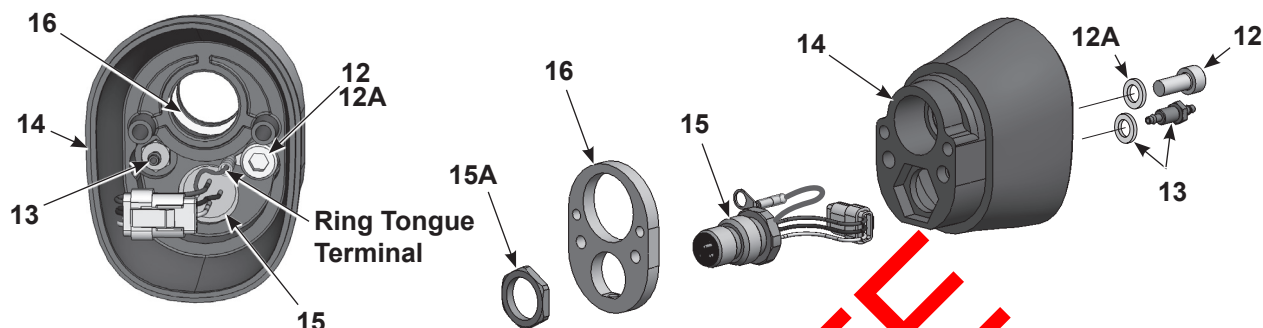

Figure 21 Tube-Mount Gun Disassembly 5 of 5
18. See Figure 21. To disassemble the rear body assembly, remove the screw (12) and barbed fitting (13) from inside the rear gun body (14). A 3-mm hex key and 1/4-in. deep-well socket are required.
19. Remove the nut (15A) from the receptacle, pull the grounding plate (16) off the rear gun body, and feed the receptacle harness through the body.